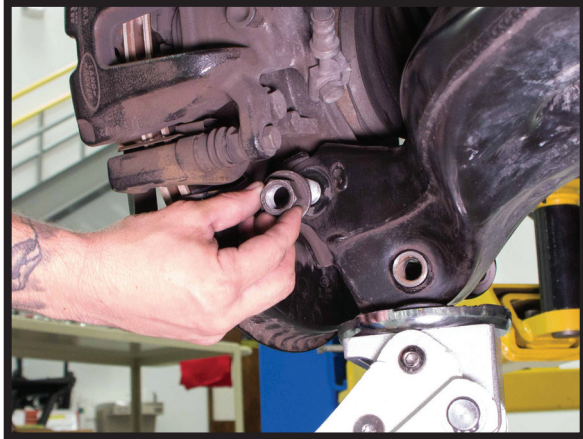

FIGURE 54
7. INSTALL THE LOWER OUTER SPINDLE NUT AND BOLT. (FIGURE 54, 55)